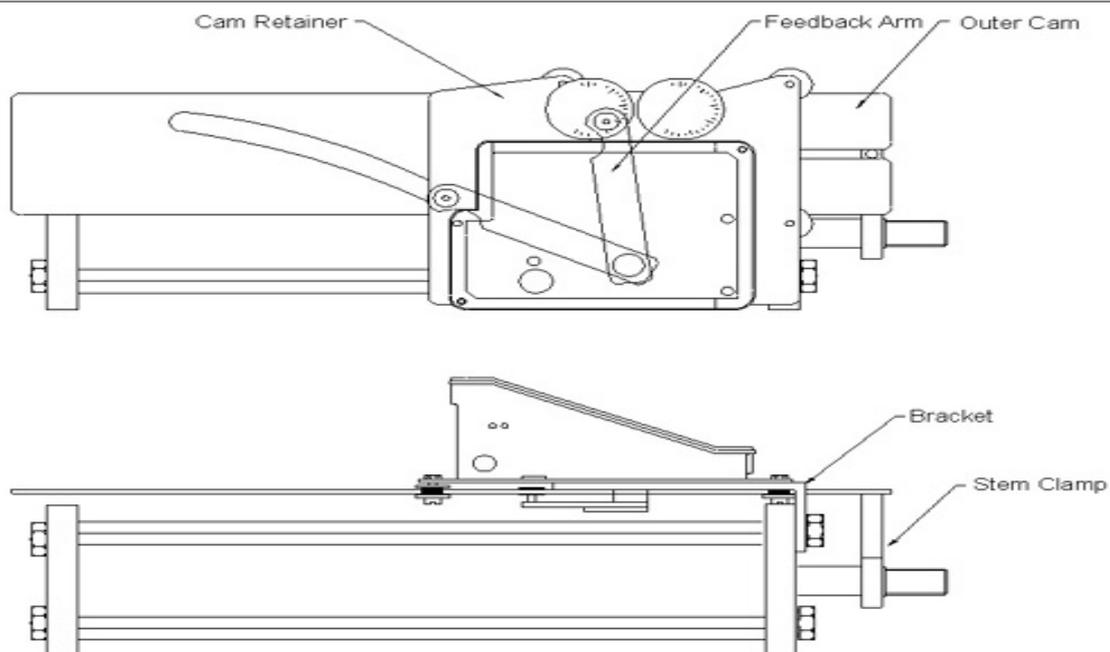

Figure 3 : Linear long stroke assembly
2.2.1 The general mounting arrangement is according to *Figure 3* – Note the direction and angle of the slot in the outer cam relative to the rest of the assembly.
- 2.2.4 Once the bracket, cam retainer and positioner are in position, slide the outer cam into the bearing channel with the slot oriented as shown in *Figure 3*.
- 2.2.5 Then attach the feedback arm to the camshaft so that with the cam movement, it moves within the region as shown in the *Figure 3 (top view)*.
- 2.2.9 The outer cam remains in the orientation as shown in *figure 3*, regardless of the air action.